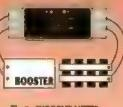

Fig 3: CURRENT METER
- Test or Clip Leads (Fig. 3) can also be used for other applications.